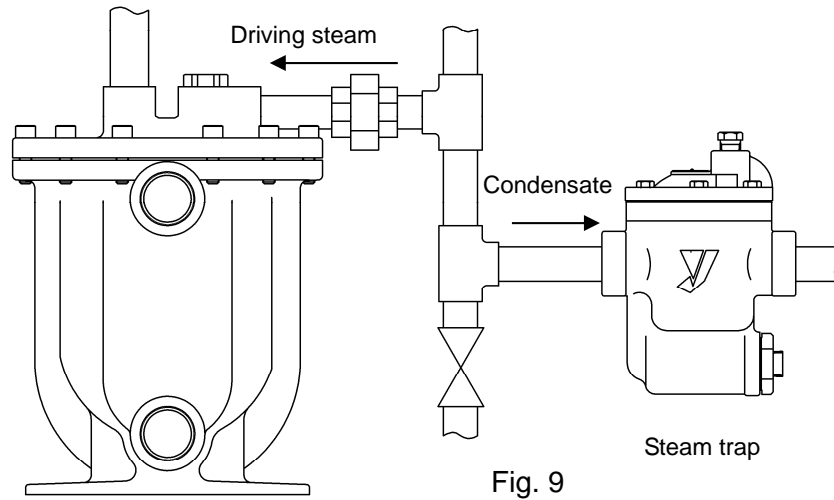

Fig. 9
(10) Attach the steam trap to the driving steam pipe for discharging. (See Fig. 9.)